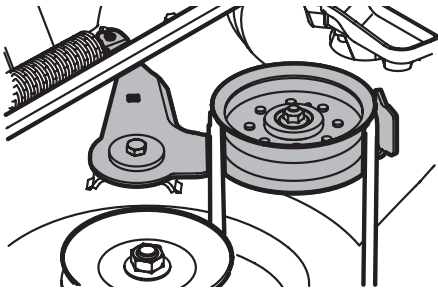

Fig. 44
- Working on the right side of the tractor, insert a 3/8 inch drive ratchet wrench, set to **tighten**, into the square hole found on the idler bracket (Fig. 44).
- Pivot the wrench forward to move the deck drive pulley forward (Fig. 44).